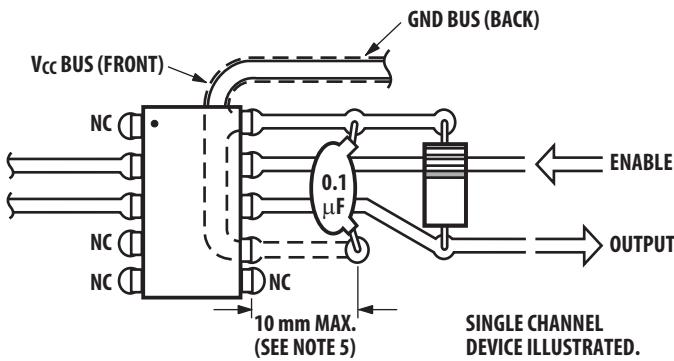

Figure 15. Recommended printed circuit board layout.
2. By passing of power supply line is required, with a $0.1\mu\text{F}$ ceramic disc capacitor adjacent to each optocoupler as illustrated in Figure 15. Total lead length between both ends of the capacitor and the isolator pins should not exceed 20mm.